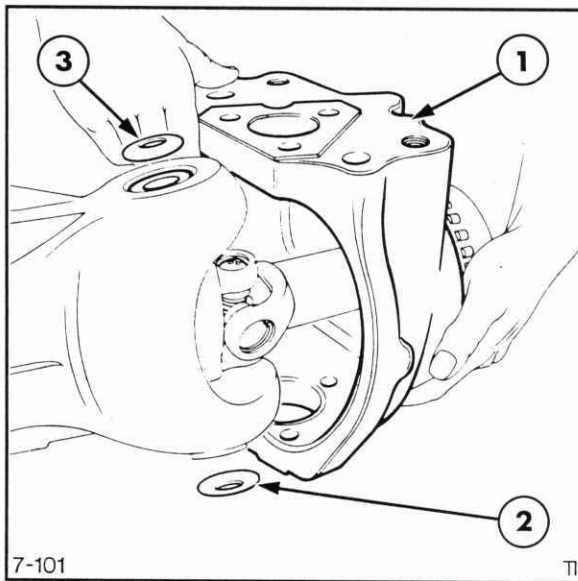

Figure 7-101
1. Carefully reposition the hub and swivel casing onto the axle shaft and to its location on the axle center casing. Ensure that the axle shaft does not damage the seal as it passes through the swivel casing. Locating the belleville washers during re assembly, Figure 7-101.